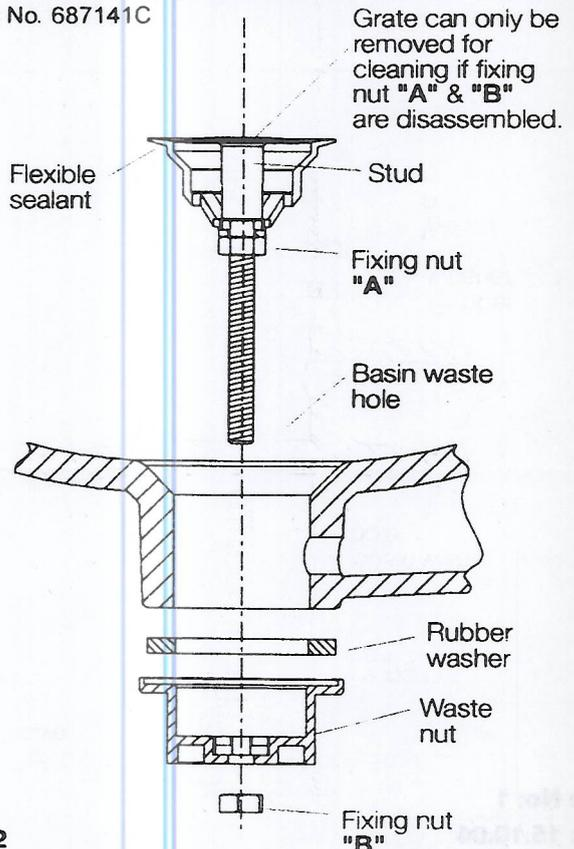

Fig. 2
4. Fit rubber washer and waste nut on to plug and waste assembly, and secure with fixing nut "B" as detailed in **Fig.2**.